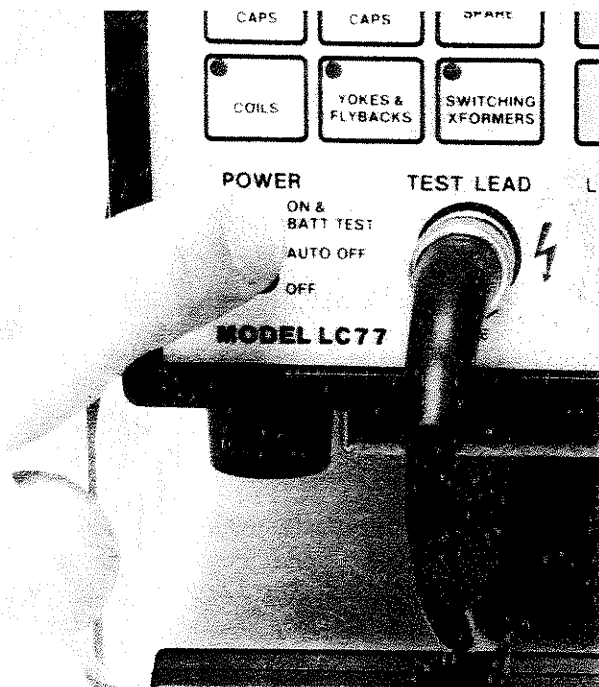

Fig. 8 — Push the Power switch to "On & Batt Test" to read the remaining battery charge.
2. Read the percentage of remaining battery charge in the LCD DISPLAY, as shown in figure 8.